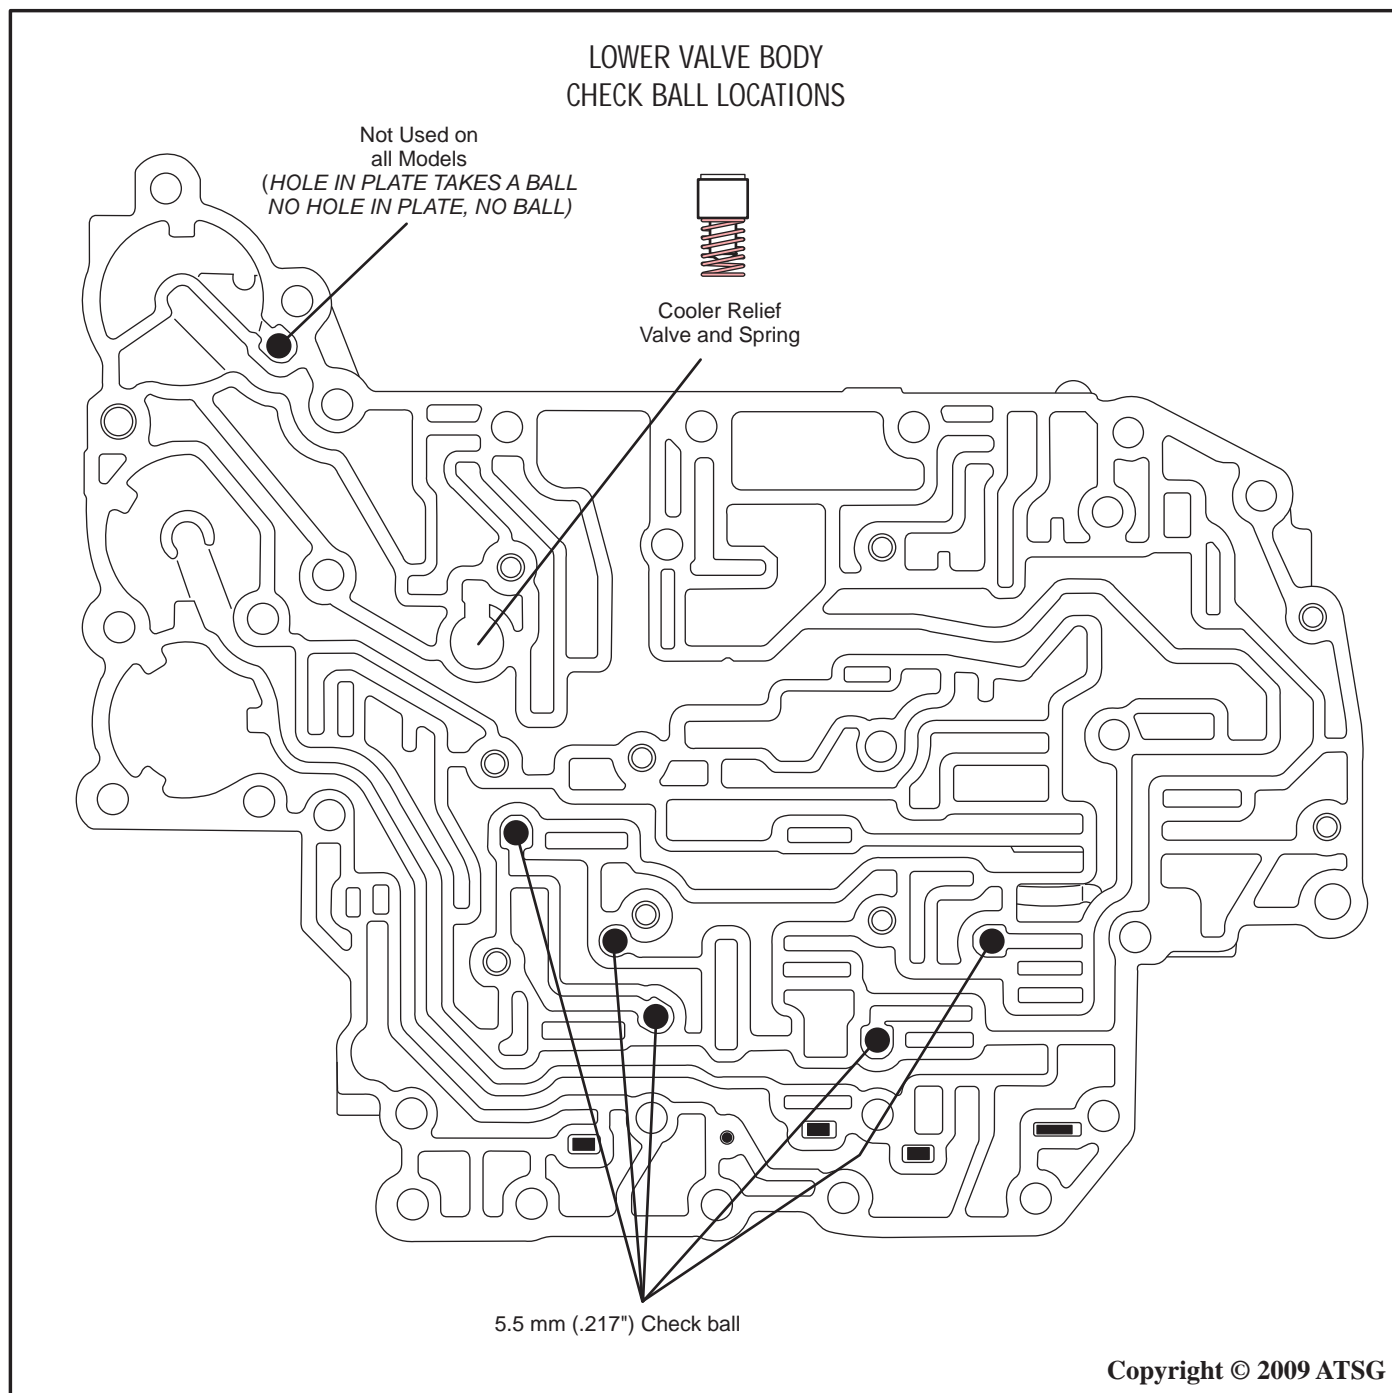

Figure 129
19. Remove the Cooler relief valve and spring from the lower valve body as shown in Figure 129.
20. Remove the five 5.5 mm (.217") check balls as shown in Figure 129.
21. Remove the 5.5 mm (.217") check ball from the left corner of the lower valve body as shown in Figure 129 if required.